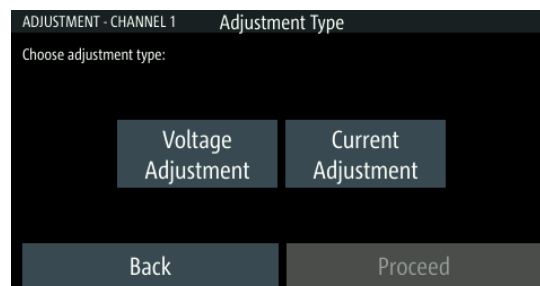
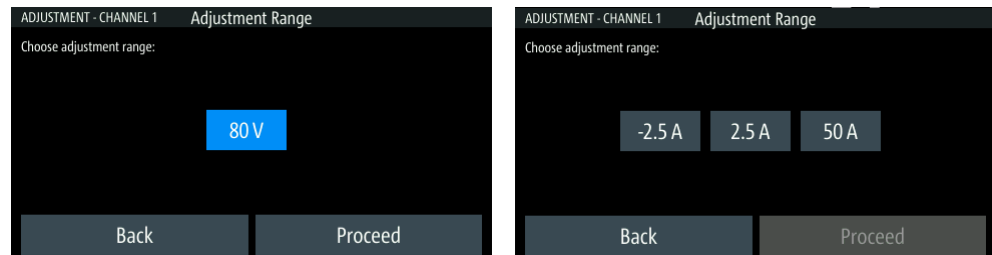

Figure 5-39: Types of adjustment
Figure 5-40: Voltage/current adjustment range
5. Follow the on-screen instructions displayed in the "ADJUSTMENT" wizard. You can select the voltage or current adjustment in any order of preference and repeat the adjustment as needed. See Figure 5-39 and Figure 5-40.